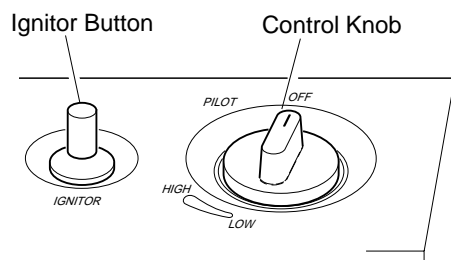

Figure 15 - Control Knob In The OFF Position
4. Wait five (5) minutes to clear out any gas. Then smell for gas, including near the floor. If you smell gas, STOP! Follow "B" in the safety information at the top of column 3, page 10. If you don't smell gas, go to the next step.
5. Press in control knob and turn counterclockwise to the PILOT position. Keep control knob pressed in for five (5) seconds (see Figure 15).